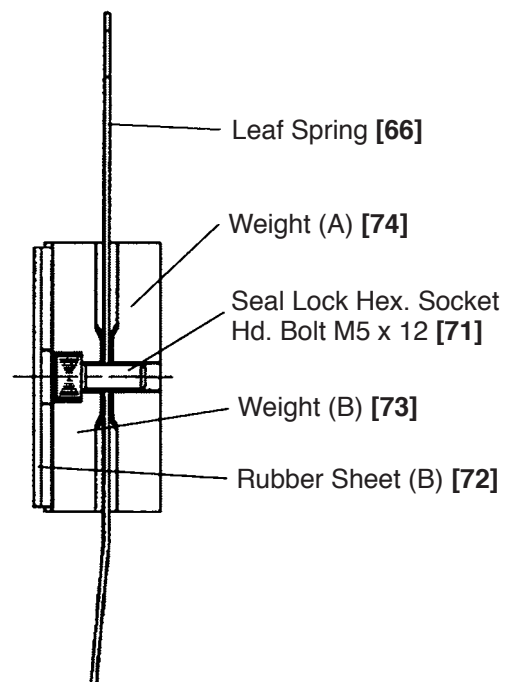

Fig. 27
(7) Mounting the leaf spring
Sandwich the Leaf Spring [66] between Weight (A) [74] and Weight (B) [73] and fix it with the Seal Lock Hex. Socket Hd. Bolt M5 x 12 [71]. Sufficiently degrease the adhering surface of Weight (B) [73] and adhere Rubber Sheet (B) [72] securely. Be careful that the Leaf Spring [66] is curved to Weight (B) [73]. At this time, do not misalign Weight (A) [74] and Weight (B) [73], and do not turn the Leaf Spring [66] (Fig. 27).